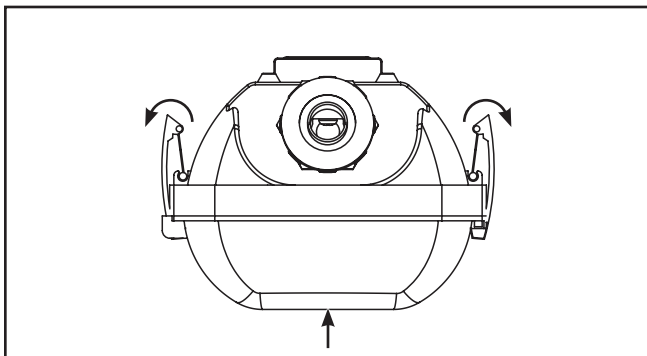

Figure 6.
7. Release latches by pulling top of latch away from housing (Figure 6). Remove lens and set aside.